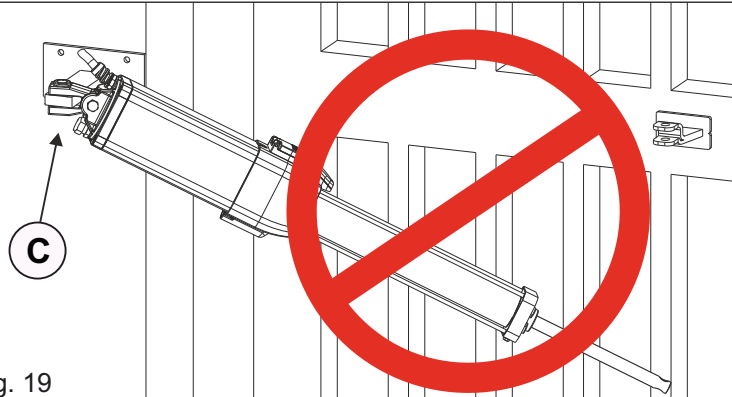

Fig. 19
**DO NOT tilt the operator further than the swing fork «C» allowed angle - Fig. 19**